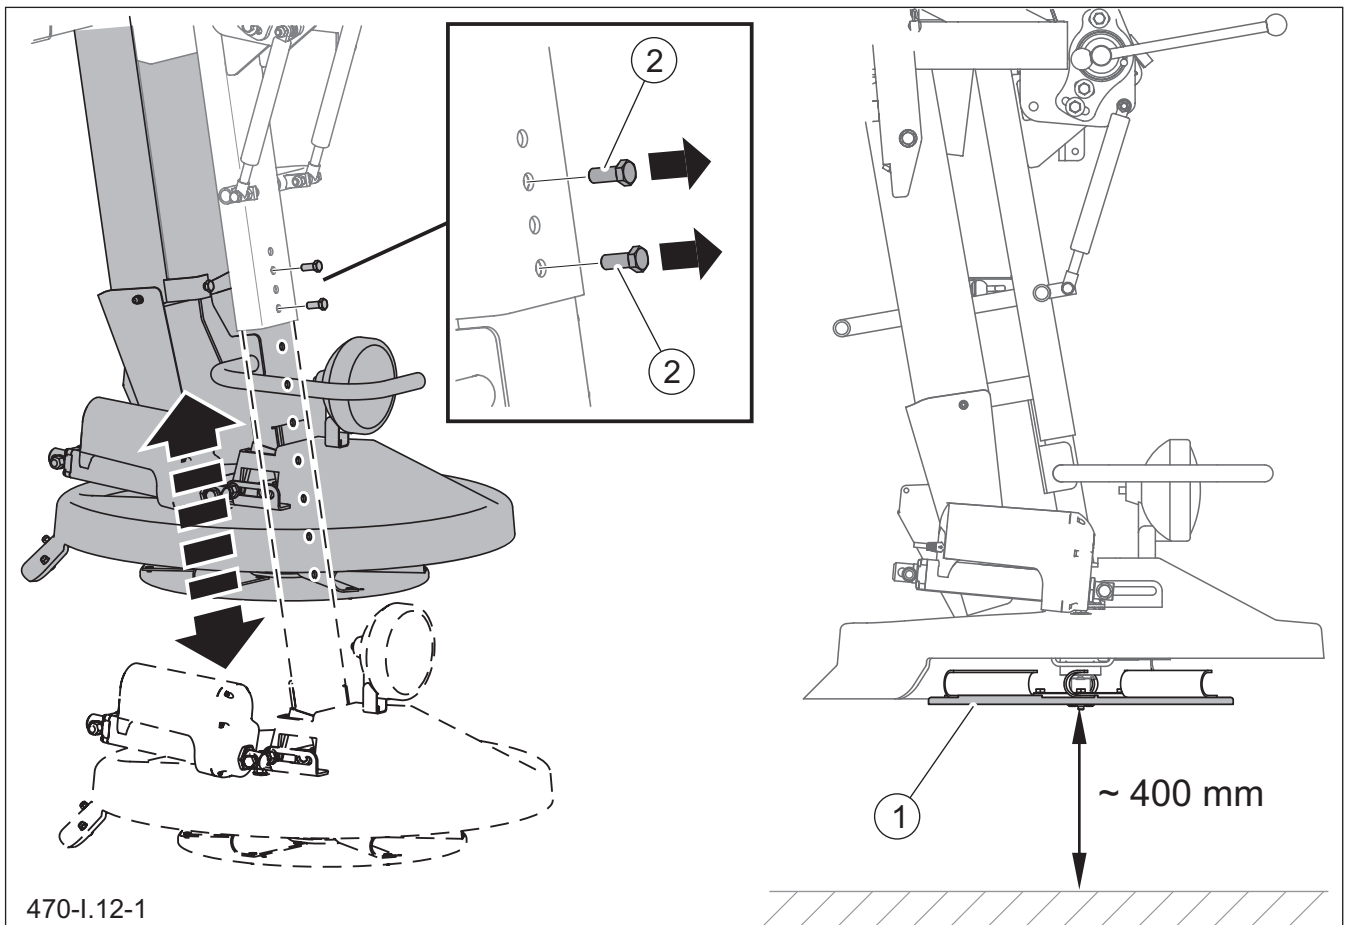

Figure 5.12 Setting the distance between the spreading disc and road surface
After levelling the spreading disc, check its height above the road surface. After lowering of the spreading mechanism, correctly set spreading disc should be located at the height of $400 \pm 15\text{mm}$ above road surface (Figure 5.12).
To set the distance between the spreading disc and road surface (Figure 5.12):
- unscrew two bolts (2) while holding the spreading mechanism,
- set the spreading mechanism so as to ensure that the distance between spreading disc (1) and road surface is approximately 400 ± 15 mm,
- screw bolts (2) into proper holes of the guide (Figure 5.12)